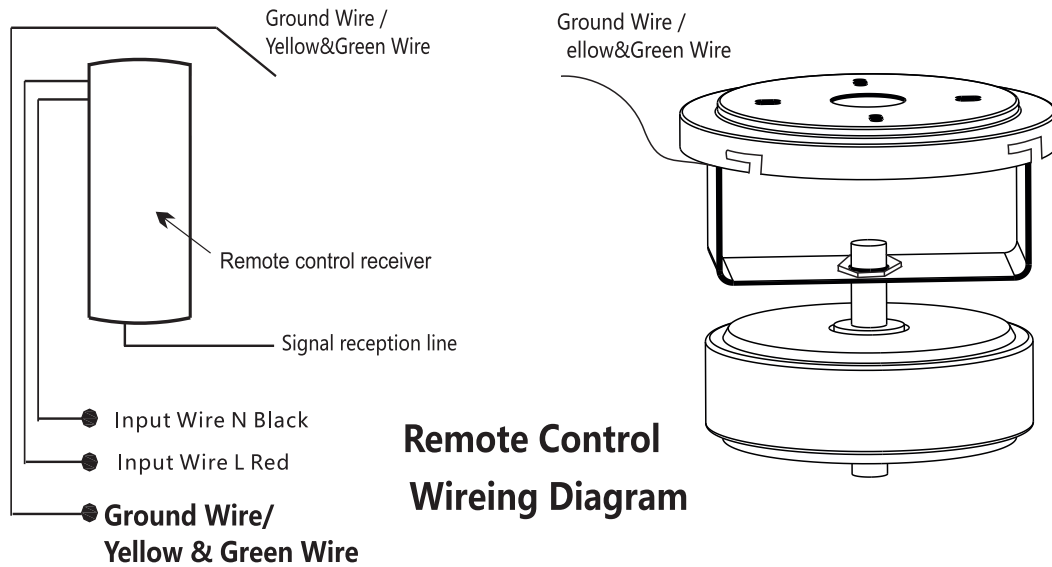

Figure 2
1 .Concrete ceiling: Drill two holes with an appropriate depth by a drilling bit with diameter 8MM, and insert 1piece of expansion screw to each hole, then fix the mounting bracket into the expansion screws, and tighten it with the nuts of expansion screws. (Fig.2)
2. Wooden ceiling: Fix the mounting bracket to the wooden ceiling by 4 pieces wooden screws. The thickness of wooden ceiling must be at least 7cm.(Fig.2)